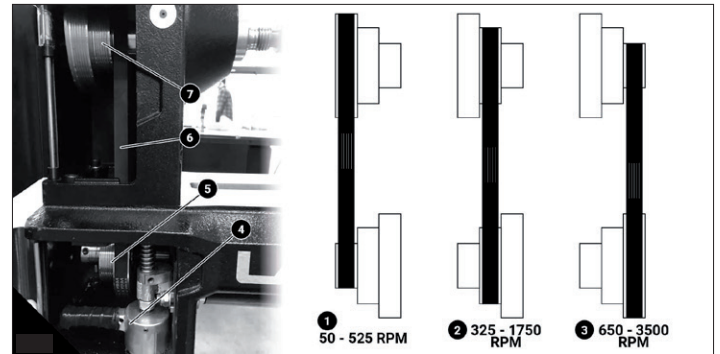

Fig. 13
Fig. 13: Changing Speed Range. (1) Low Speed Range: 50-525 RPM. (2) Mid Speed Range: 325-1750 RPM. (3) High Speed Range: 650-3500 RPM. (4) Belt Tension Cam Handle. (5) Drive Pulley. (6) Groove Poly-V Belt. (7) Driven Pulley.